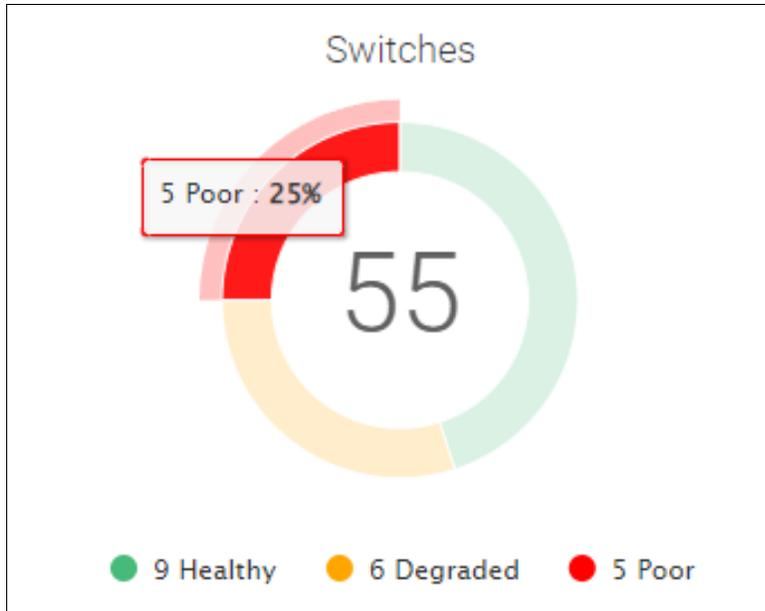

Figure 5-64 Health Summary dashboard: Poor score
3. In the Health Summary dashboard, click the red or orange areas of the widgets to see a list of items with a poor or degraded score (Figure 5-64).